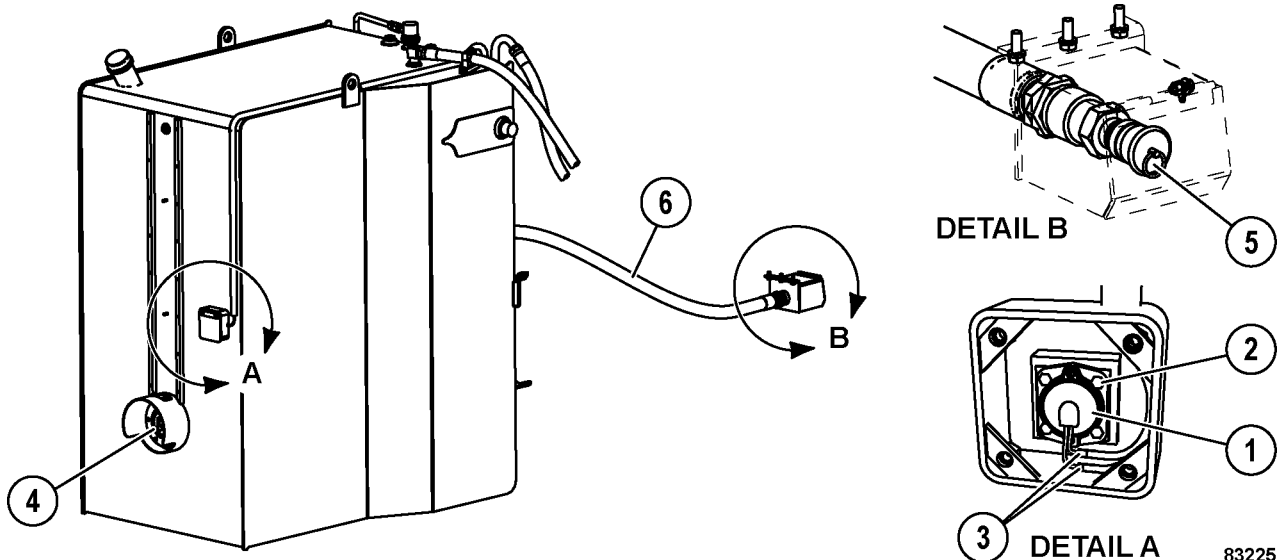

FIGURE 4-3. FUEL GAUGE SENDER & QUICK FILL FUEL RECEIVERS
Fuel gauge sender (1, Figure 4-3) provides an electrical signal to operate the fuel gauge on the instrument panel.
2. Install fuel gauge sender (1, Figure 4-3) in the tank. Ensure the float is oriented properly and moves freely.
3. Install sender mounting hardware (2) and tighten the capscrews to the standard torque.
4. Connect the wires to terminals (3).
Fuel receiver assembly (4, Figure 4-3) is mounted on the front of the fuel tank. Fuel receiver assembly (5) is mounted to the bottom of the hydraulic tank. It is connected to the rear of the fuel tank by hose (6).